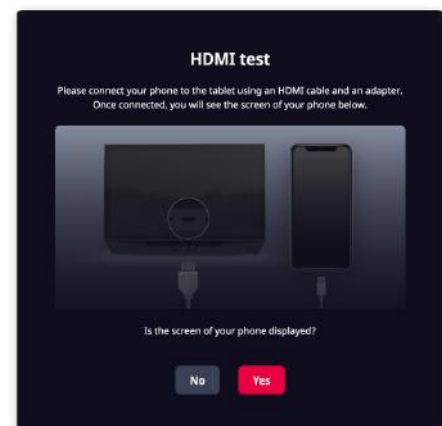

Fig. 77
2. Connect your phone to the tablet using an HDMI cable and an adapter as shown in Fig. 77. Once connected, you will see the screen of your phone on the console.